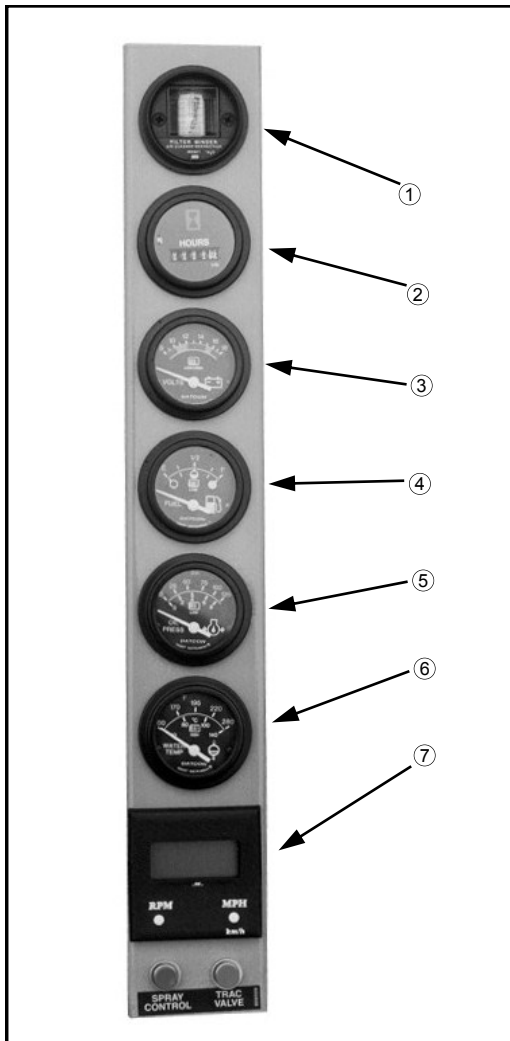

FIG 5.74
**Filter Minder®** - (fig. 5.74, item 1) The Filter Minder® is an engine air filter restriction monitoring device. For more information, see page 80.
**Hour Meter** - (fig. 5.74, item 2) The hour meter progressively records elapsed time of sprayer operation. It is useful for determining service intervals.
**Volt Meter** - (fig. 5.74, item 3) The volt meter measures voltage from the alternator on the diesel engine. A “RED” indicator light will alert the operator if the system is operating either too low or too high.
**Fuel Gauge** - (fig. 5.74, item 4) The fuel gauge measures the amount of fuel in either fuel tank, depending on the tank selected with the fuel switch. A “YELLOW” indicator light alerts operator of low level operation.
**Engine Oil Pressure** - (fig. 5.74, item 5) The oil pressure gauge monitors pressure of the engine lubricating system. A “RED” indicator light alerts the operator of low level operation.
**Water Temperature** - (fig. 5.74, item 6) The water temperature gauge monitors the engine cooling system. A “RED” indicator light alerts the operator of unsafe operating temperatures.
**Speedometer/Tachometer** - (fig. 5.74, item 7) Unit will display either engine RPM or speed of travel depending on operator’s selection. See next page for more information on the speedometer/tachometer.